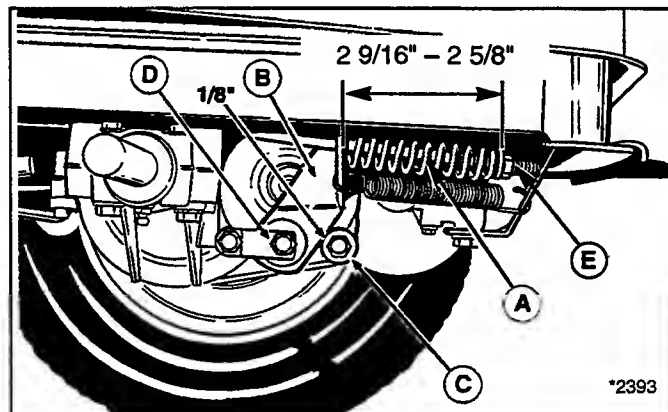

Figure 24. Brake Adjustment (Gear Model)
2. Move the brake lever (B) forward. There should be a $1/8"$ gap between the lever (B) and the stop (C) as shown in figure 24.
3. To adjust clearance, turn nut (D) clockwise to decrease the gap or turn nut counterclockwise to increase the gap.
4. Set the parking brake. Loosen or tighten adjustment nut (E) to achieve a $2\frac{9}{16}" - 2\frac{5}{8}"$ compressed spring length as shown in figure 24.